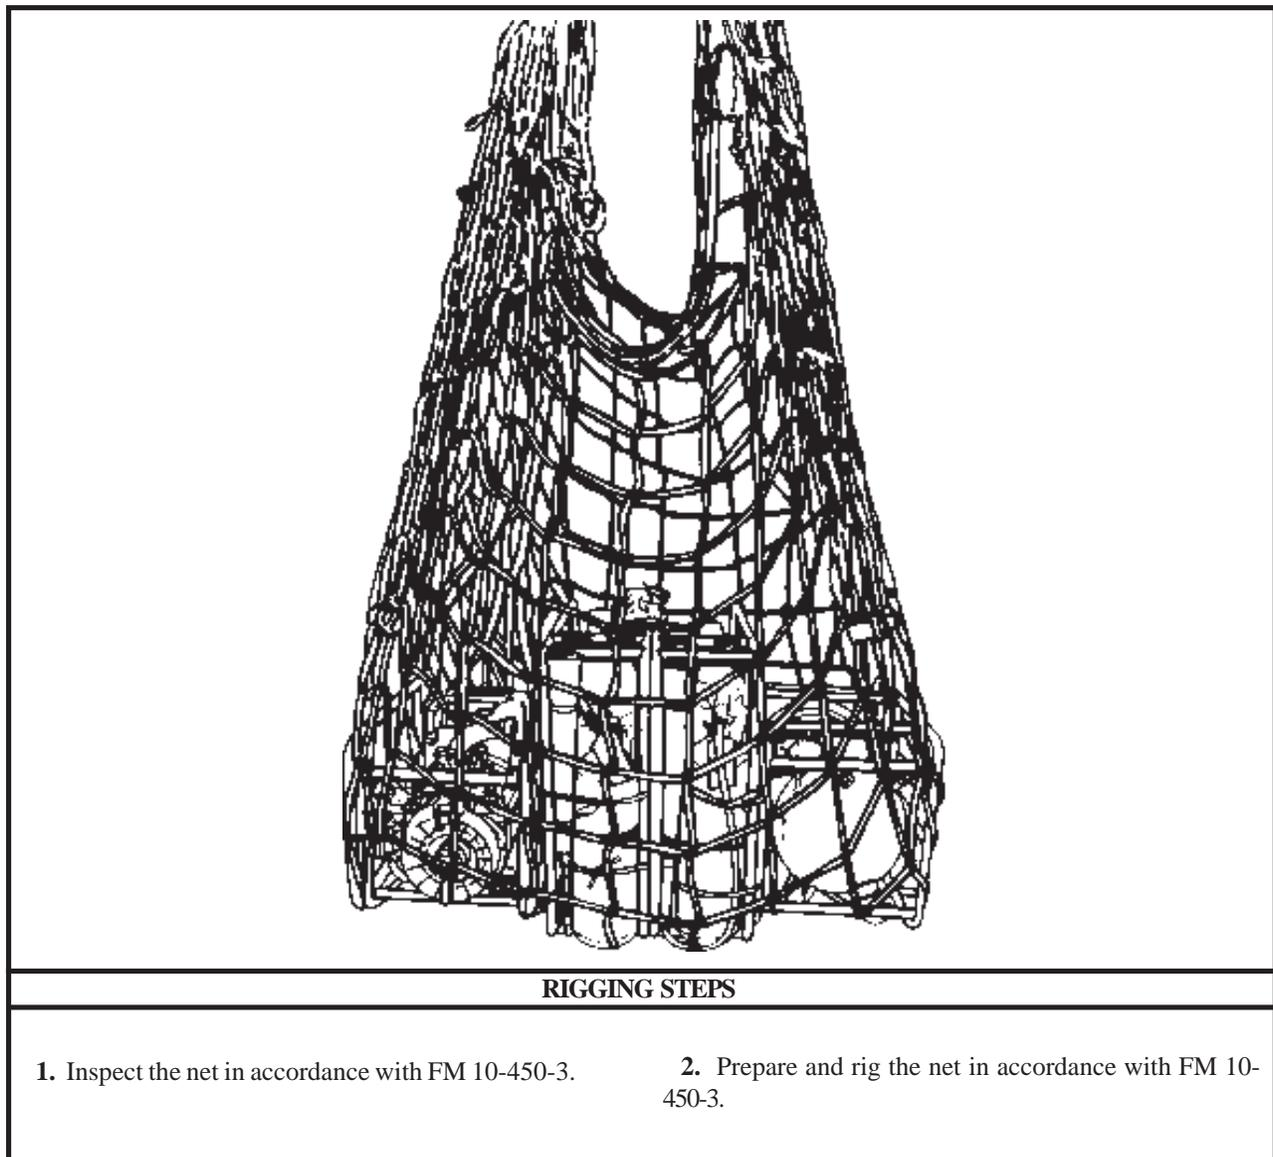

Figure 14-1. Forward Area Refueling Equipment (FARE)
(2) **Rigging.** Rig the load according to the steps in Figure 14-1.